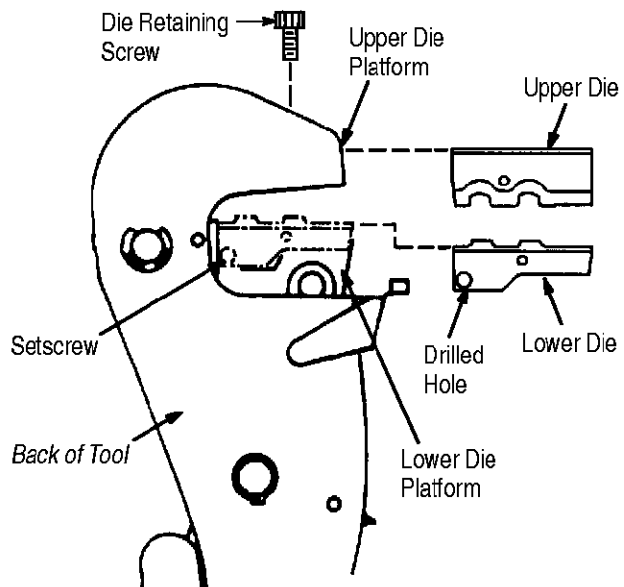

Figure 2
3. DIE INSTALLATION (Figure 2)